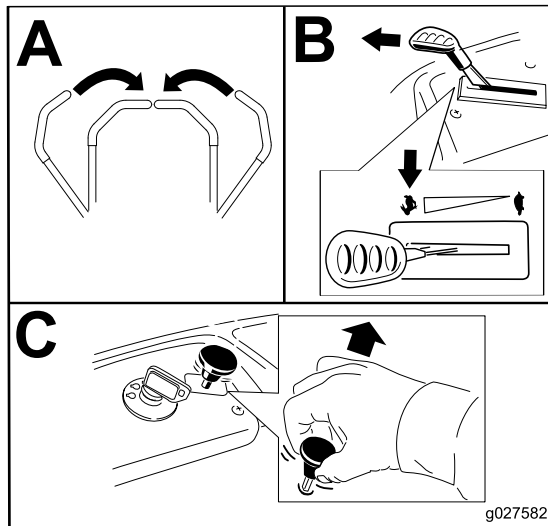

Figure 11
**Note:** Always engage the blades with the throttle in the FAST position (Figure 11).
1. Disengage the blades by pushing the blade-control switch to the OFF position (Figure 11).